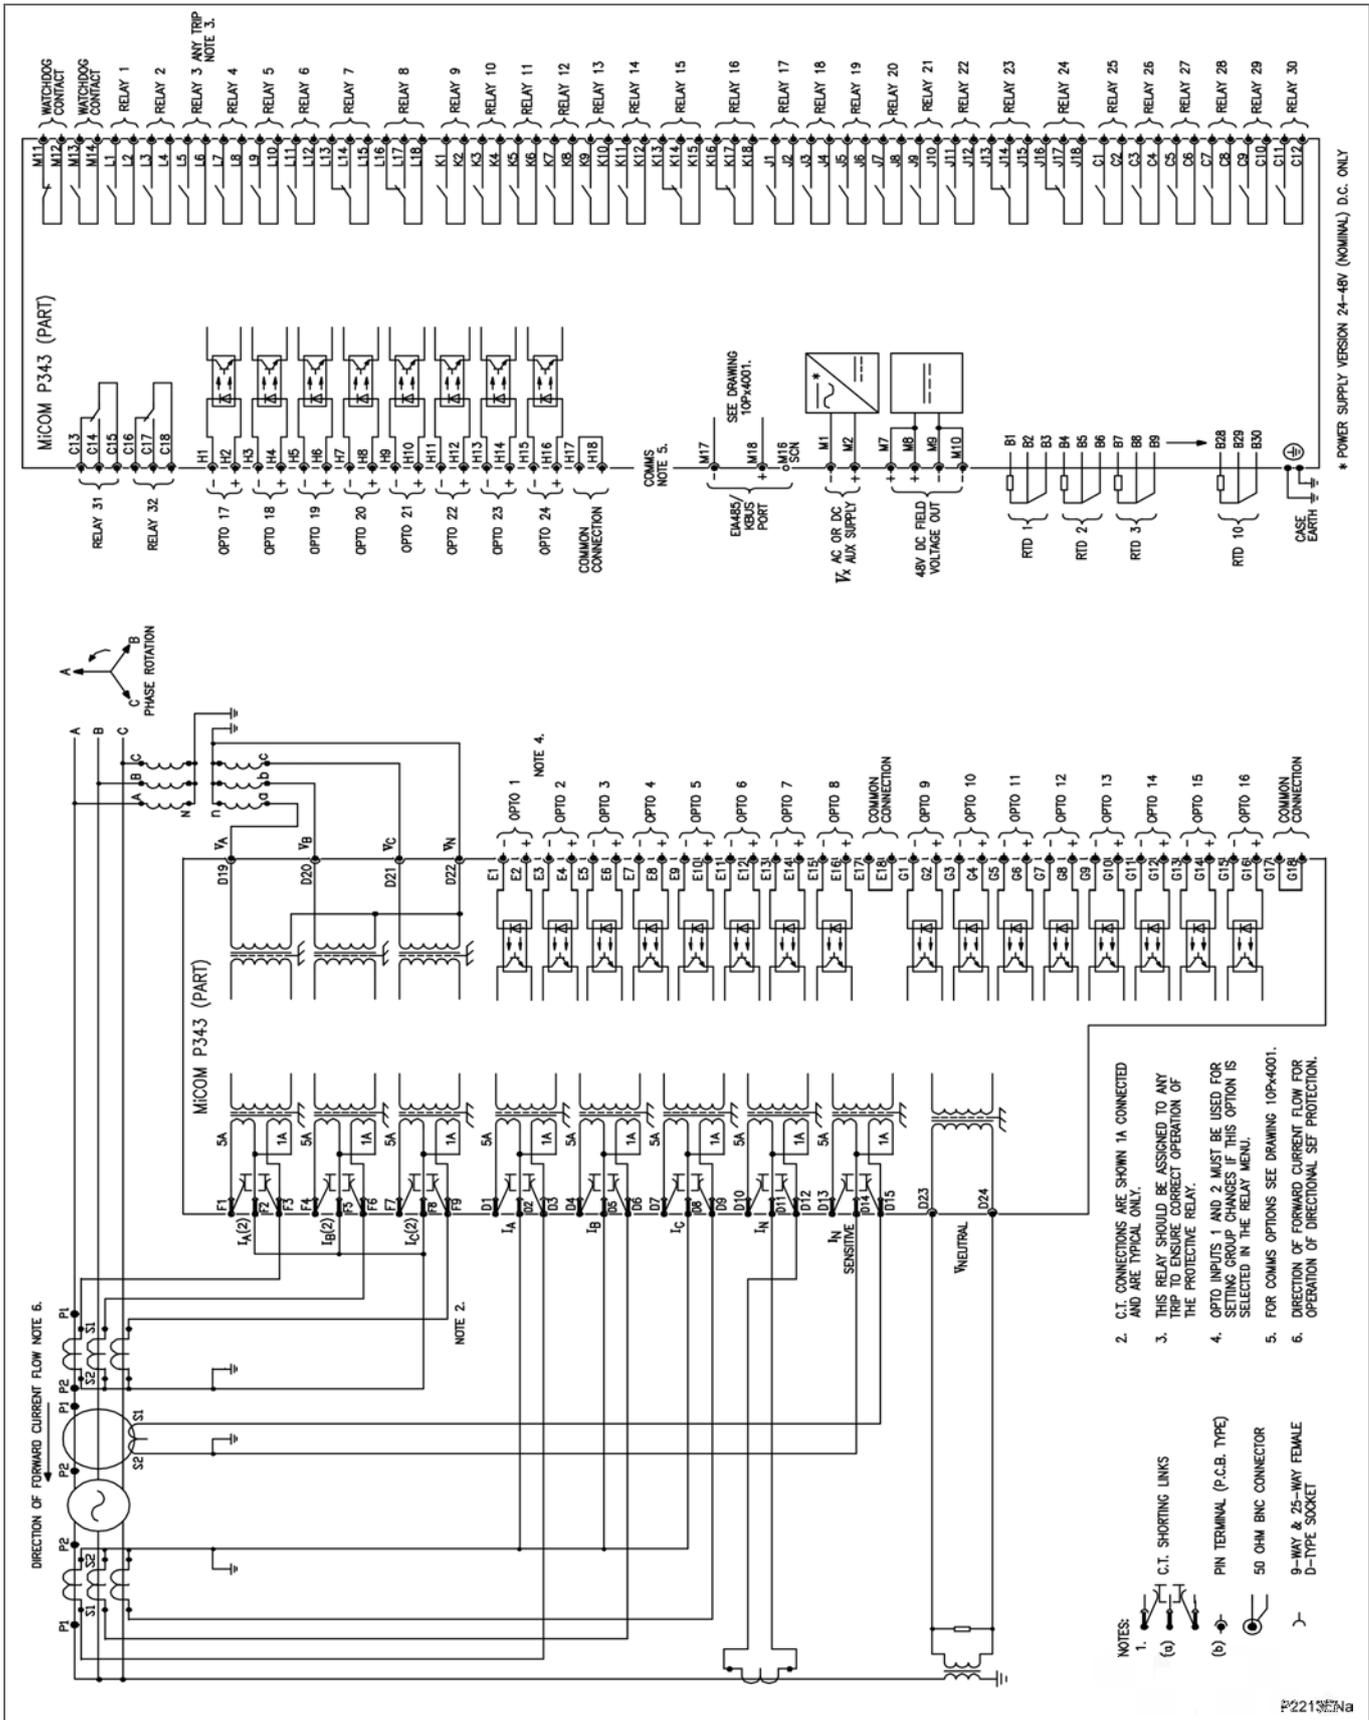

Figure 67 - P343 (80TE) with biased differential (24 I/P & 32 O/P & RTDs)
- Figure 67 - P343 (80TE) with biased differential (24 I/P & 32 O/P & RTDs)